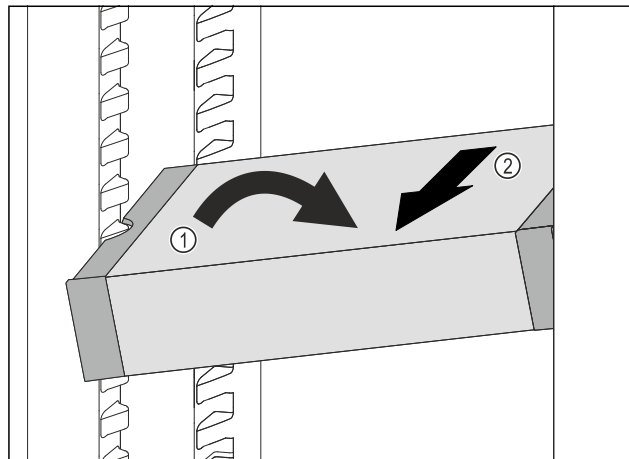

Fig. 81
- ▶ Set VarioSafe in refrigerator compartment at an angle. Fig. 81 (1)
- ▶ Take VarioSafe out to the front. Fig. 81 (2)